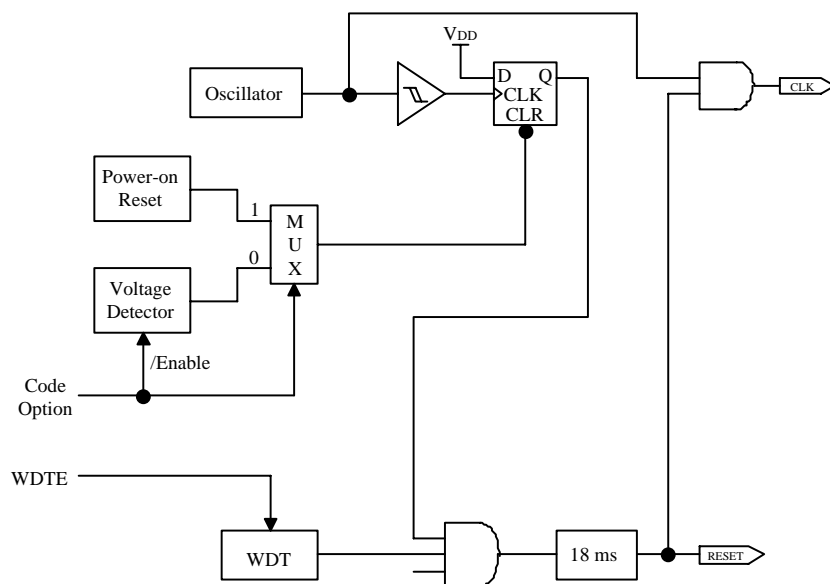

Fig. 14 Block diagram of Reset of controller
- (1) Power on reset, or Voltage detector
- (2) WDT timeout. (if enabled and in GREEN or NORMAL mode)
Note that only Power on reset, or only Voltage detector in Case(1) is enabled in the system by CODE Option bit. If Voltage detector is disabled, Power on reset is selected in Case (1). Refer to Fig. 14